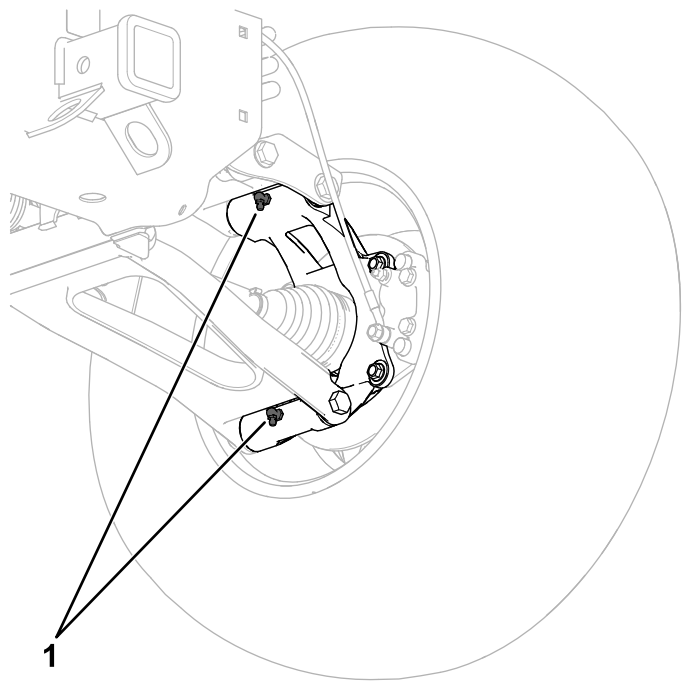

Figure 95
- **Rear knuckle pivots (4);** refer to Figure 95